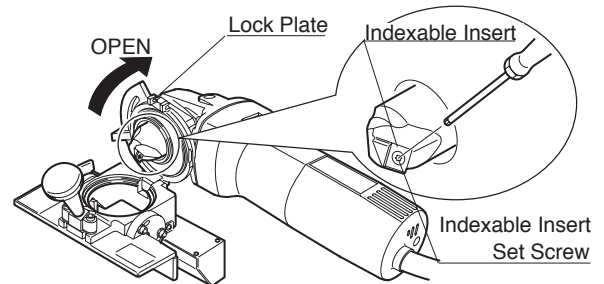

Fig.17
- (2) Open the Lock Plate with the Knob laid down. (Fig.17)
- (3) Remove the Indexable Insert Set Screw using the Spanner T-15D attached to take off the Indexable Insert. (Fig.17)
- (4) Mount a new Indexable Insert (including use of reverse surface) paying attention to the direction of the Indexable Insert. (Fig.17)